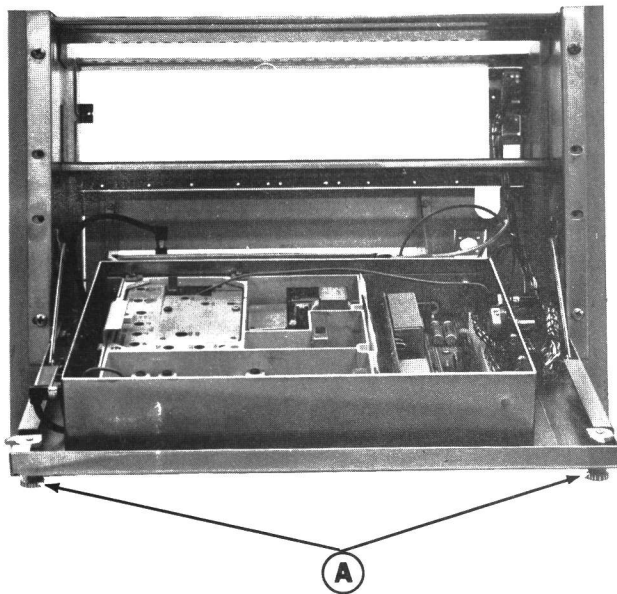

Figure 2 - Access to Exciter Front View
1. Turn the two latching knobs (A) counter-clockwise to unlatch the Radio Panel Front Door. Refer to Figure 2.